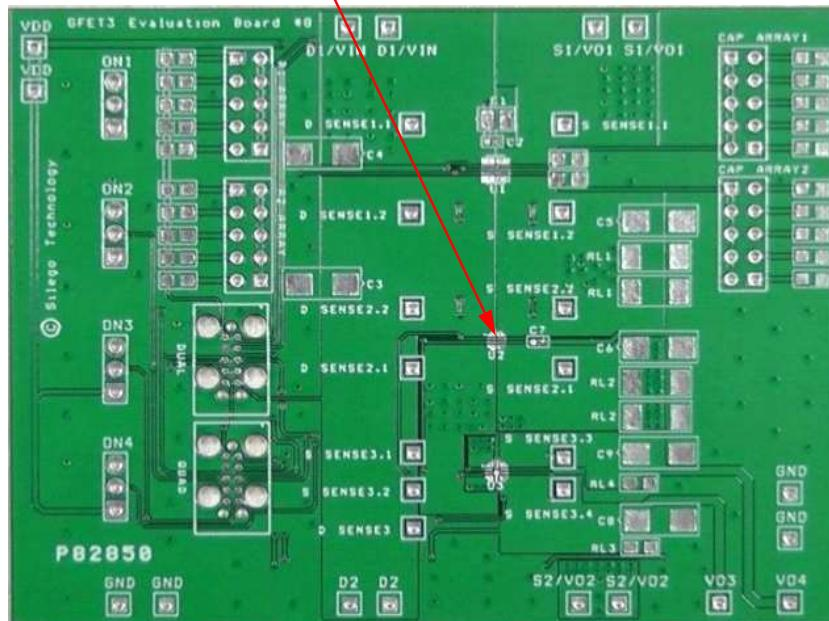

Figure 1. SLG59M1446V Evaluation Board.
2. Since the D1, D2, S1 and S2 pins dissipate most of the heat generated during high-load current operation, it is highly recommended to make power traces as short, direct, and wide as possible. A good practice is to make power traces with absolute minimum widths of 15 mils (0.381 mm) per Ampere. A representative layout, shown in Figure 1, illustrates proper techniques for heat transfer as efficiently as possible out of the device;
A GreenFET Evaluation Board for SLG59M1446V is designed according to the statements above and is illustrated on Figure 1. Please note that evaluation board has D_Sense and S_Sense pads. They cannot carry high currents and dedicated only for $R_{DS_{ON}}$ evaluation.